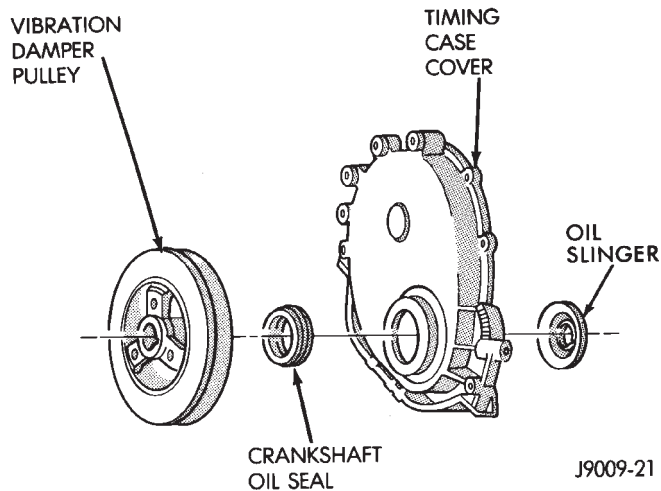

Fig. 36 Timing Case Cover Components
(8) Pry the crankshaft oil seal from the front of the timing case cover (Fig. 36).